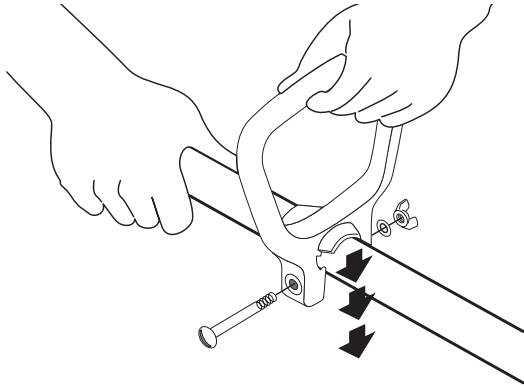

Fig. 1
2. Place the D-handle over the shaft housing and push it on the boom (Fig. 1).